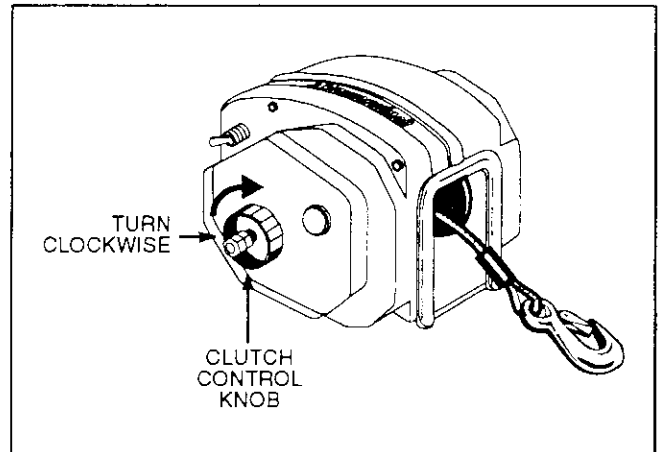

Figure 5 Clutch And Brake Engagement
5. Turn the clutch control knob clockwise until tight. **DO NOT** overtighten the knob or clutch damage will occur (See Figure 5).